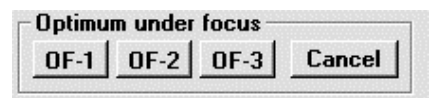

Fig. 3-52 Optimum under focus Group
- 1) When the optional film mechanism is set, display of the Optimum under focus group area becomes effective as shown in Fig. 3-52. Click any of OF-1, OF-2 and OF-3 buttons in the Optimum under focus group. The pressed status will be displayed.